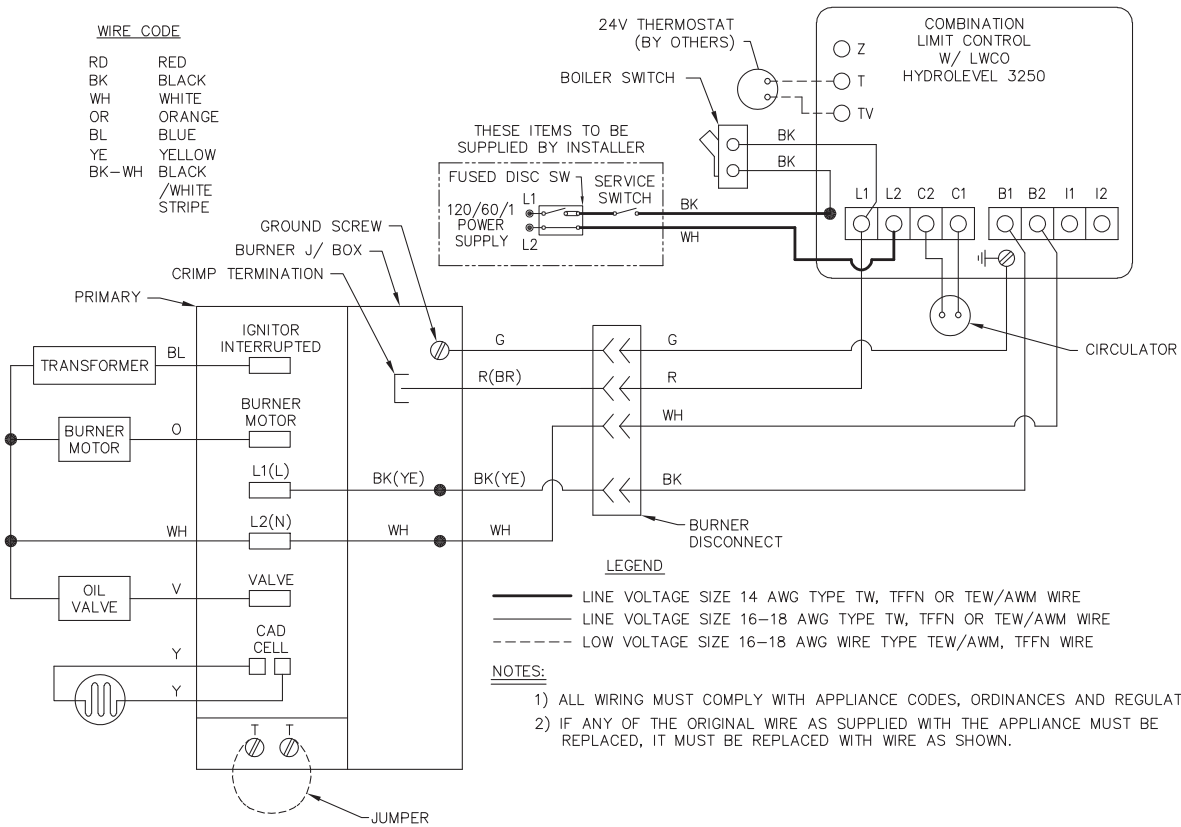

Figure 4.5: Water Boilers, Hydrolevel 3250 Limit Control
- Figure 4.5 - Water Boilers, Hydrolevel 3250 Limit Control